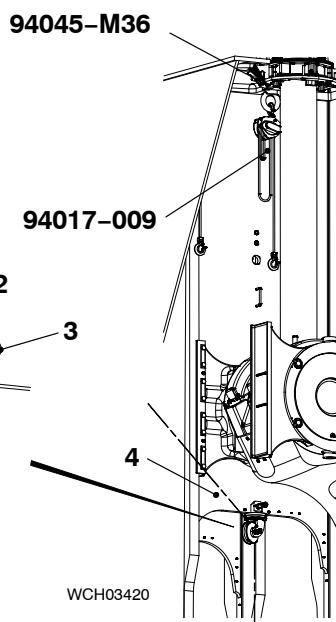

Fig. 3
- 8) Attach the roller support (94117, Fig. 3) to the column (4).
- 11) Lock the pin (2) with the double spring clip (3).